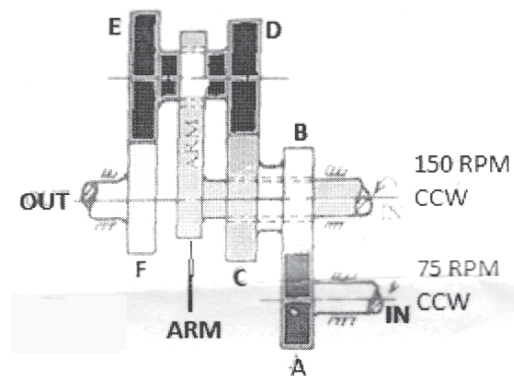

Fig. Q4
**Q4)** Fig. Q4 shows an epicyclic gear train with two inputs. One of the inputs is through the arm and the second input is through gear A. Determine the speed of the output shaft F and its direction of rotation if both the input shafts rotate in counter clockwise direction. **[16]**